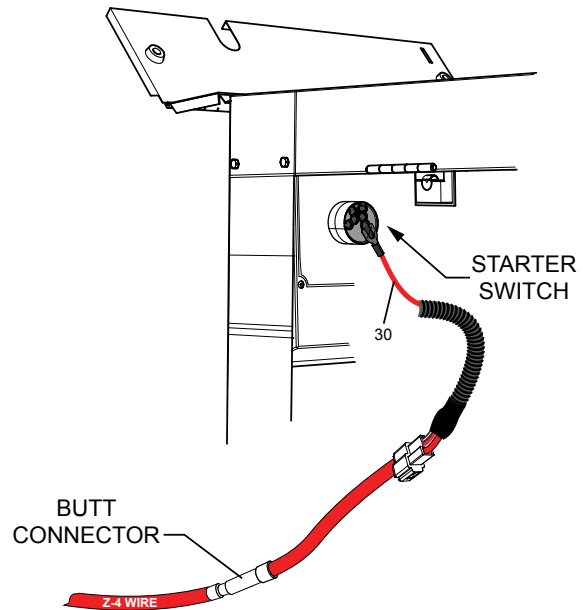

Figure 9. Starter Switch Butt Connector
5. Locate the toggle switch T2, OFF Z-4 labeled wire (Figure 9) and connect the butt connector end to the red wire cut in Step 4.
6. Reconnect the top and bottom half (Figure 9) of the starter switch connector.